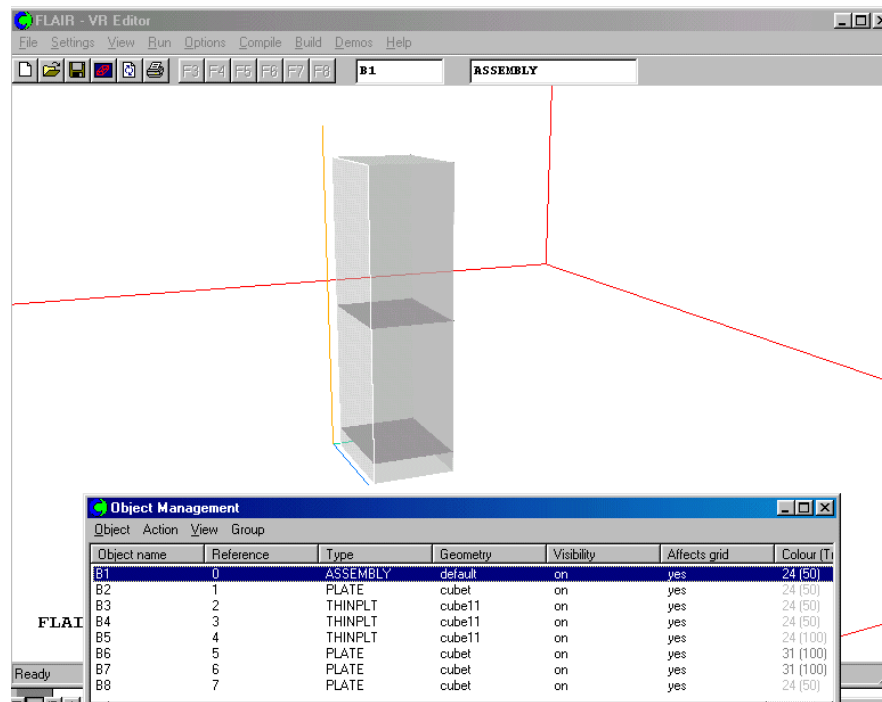

Figure 3.19 The casing assembly
- **Casing** is an assembly of seven components, three thin-plates and four plates as shown in figure 3.19